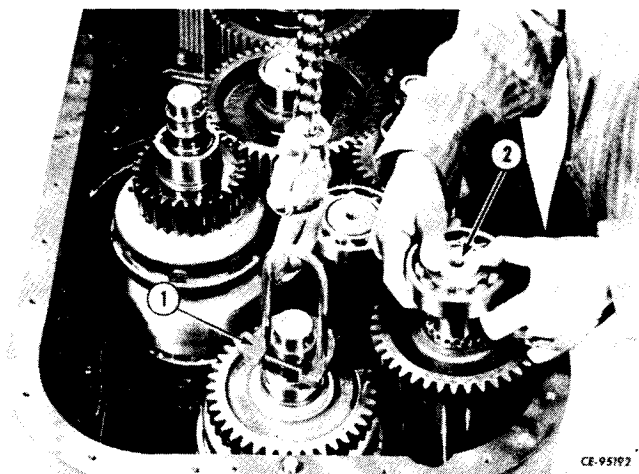

Figure 4-27
Attach lifting tool (1, Fig. 4-27) (refer to "SPECIAL TOOLS") to the forward and reverse clutch pack. Remove clutch pack while simultaneously lifting the reverse idler pack (2). For overhaul procedure refer to "CLUTCH PACKS."